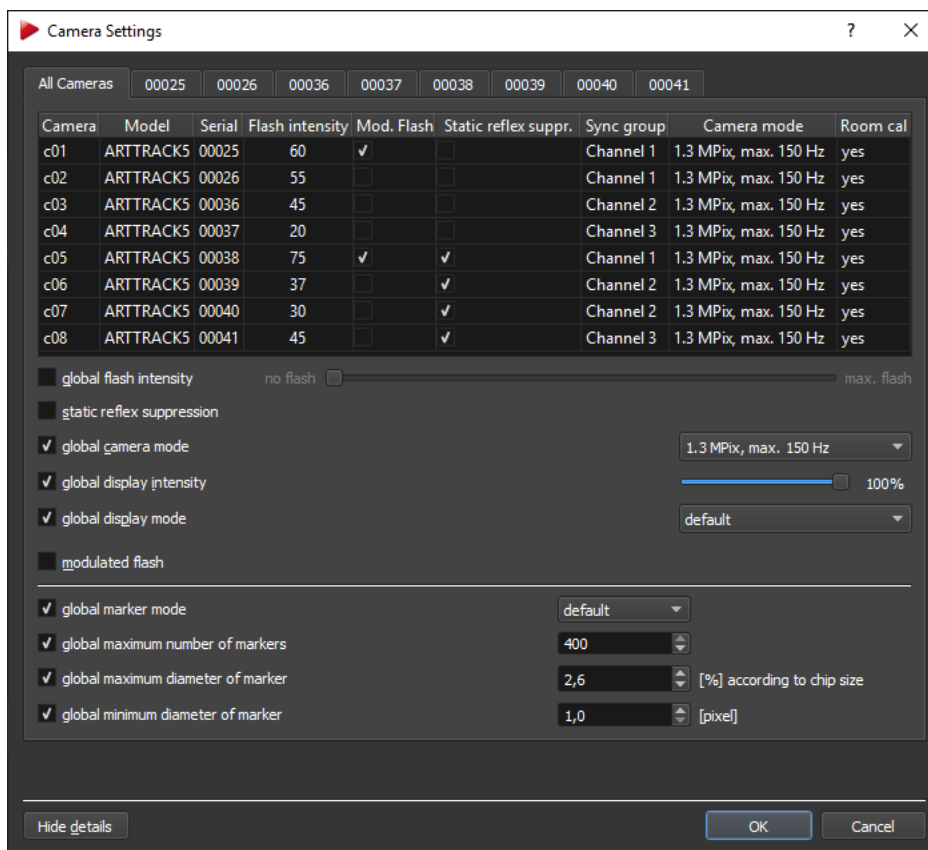

Figure 8.2: Camera Settings - All Cameras Tab
This dialog (see figure 8.2 on page 71) shows a comprehensive list of all cameras currently connected to the system as well as all cameras that have been removed since the last valid room calibration. It allows changes of all camera specific settings (e.g. flash intensity, static reflex suppression, syncgroup assignment, etc.) either for all cameras at once (globally) or for each camera separately by left-clicking and selecting the appropriate entry.
**Show Details** Here you can change the settings regarding low-level marker detection globally (see figure 8.2 on page 71):